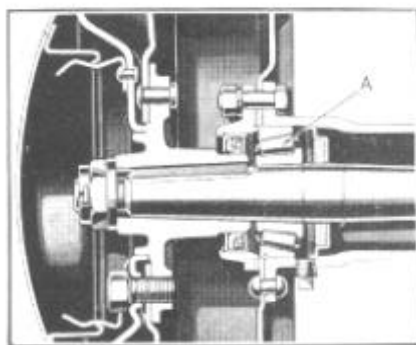

Figure 18
The rear wheel bearings (A), Figure 18, should be cleaned and repacked with one and one-half ounces of milled sodium soap base lubricant every 5,000 miles. See page 63 for adjusting procedure.